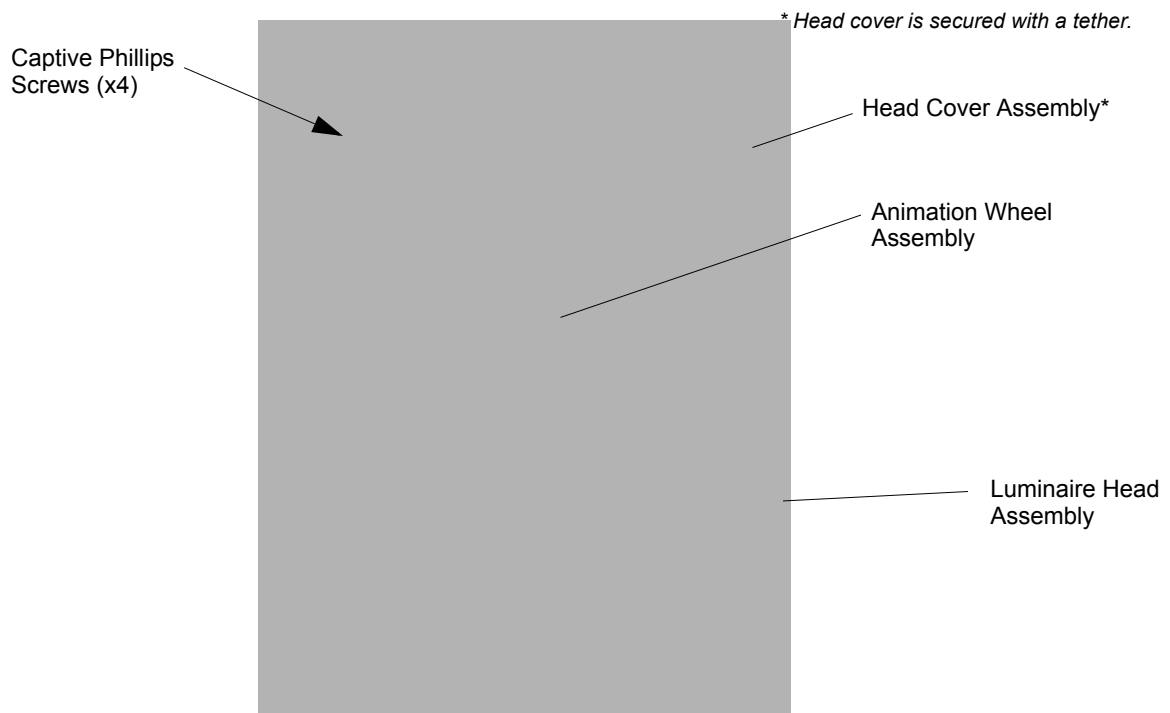

Figure A-10: Replacing Animation Wheel
Step 3. Remove head cover assembly as indicated in Figure A-10 by loosening four captive screws and lifting cover away from luminaire head. Note, head cover is attached by a safety tether.